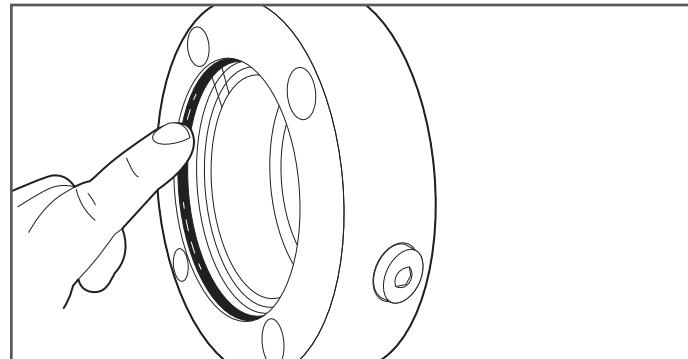

Figure 7-14
**15.** Ensure inner o-ring is not damaged or torn (Figure 7-14).